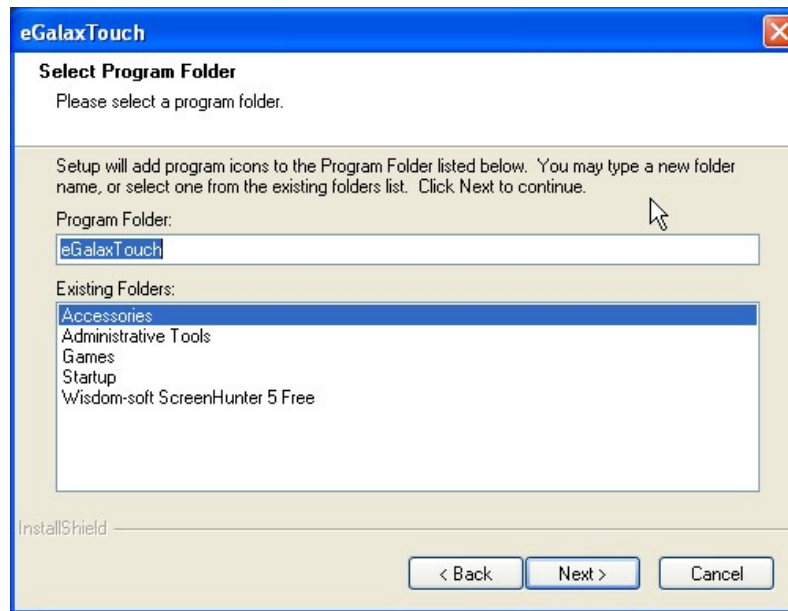

Figure 6-42: Select Program Folder
Step 10: Select the program folder (**Figure 6-42**). Click **Next** to continue.